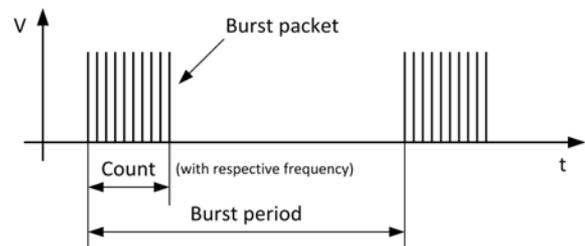

Figure 9: Burst mode
- Burst packets with a defined number of pulses and burst period (Figure 9)